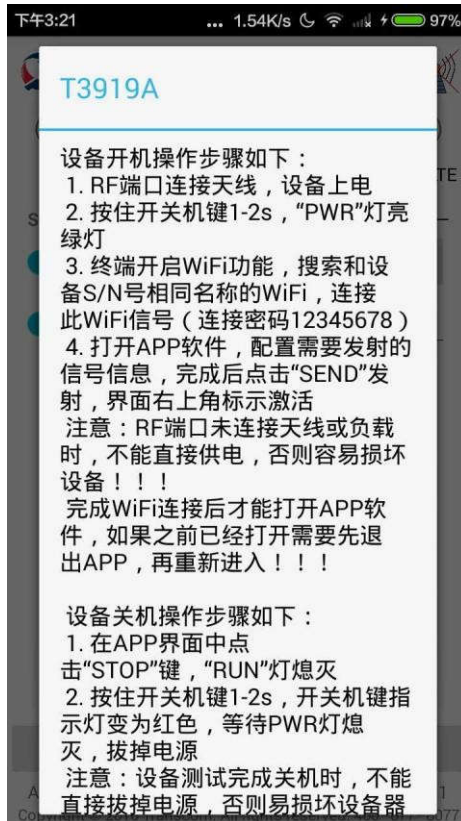

Fig. 4 About Prompt Information
- Configuration prompt symbol: Click "About" to display start/shutdown notices, as shown in Fig. 4.